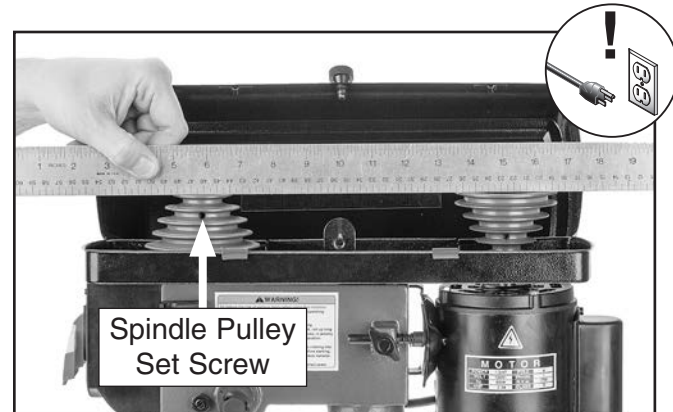

Figure 43. Checking pulley alignment.
5. Place a straightedge against both pulleys (see **Figure 43**) and check that they are aligned. There should be no space anywhere between straightedge or pulleys.
6. Loosen set screw on spindle pulley shown in **Figure 43**.